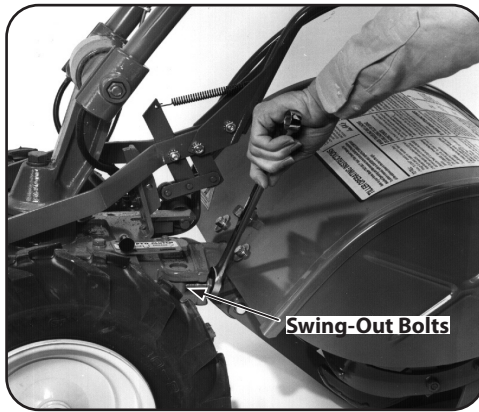

Figure 4-21
7. Loosen the two swing-out bolts that connect the power transmission to the tine attachment. See Figure 4-21.